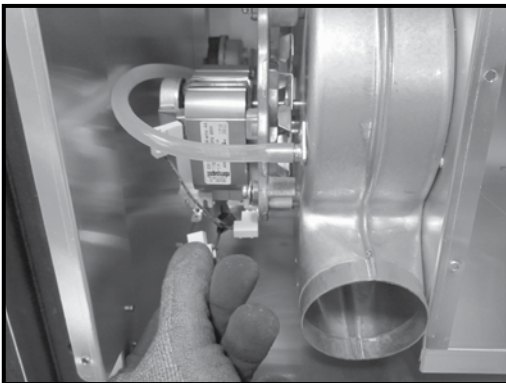

Figure 5.4
3. Remove the hot, neutral and ground wire from the front of the blower. See Figure 5.4.